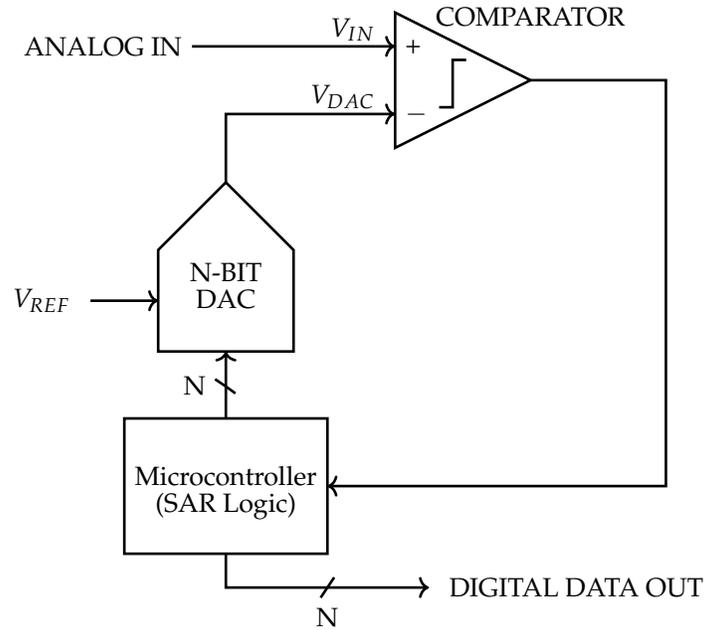

Figure 5: SAR ADC circuit diagram
You have two CMOS inverters made from NMOS and PMOS devices. Both NMOS and PMOS devices have an “on resistance” of $R_{on,N} = R_{on,P} = 1 \text{ k}\Omega$, and each has a gate capacitance (input capacitance) of $C_{GN} = C_{GP} = 1 \text{ fF}$ (fF = femto-Farads = $1 \times 10^{-15} \text{ F}$). We assume the “off resistance” (the resistance when the transistor is off) is infinite (i.e., the transistor acts as an open circuit when off). The supply voltage V_{DD} is 1V. Assume $V_{DD} > V_{tn}, |V_{tp}| > 0$. The two inverters are connected in series, with the output of the first inverter driving the input of the second inverter (Figure 5).
Figure 5 illustrates a high-level circuit diagram of a SAR ADC. The analog input voltage is one of the inputs to the comparator. The other comparator input, V_{DAC} , is the DAC voltage output, i.e. the analog representation of your code/guess. The comparator compares these two values and outputs a logical high (1) if $V_{IN} \geq V_{DAC}$ or a logical low (0) if $V_{IN} < V_{DAC}$. This comparator decision then feeds into the SAR logic, implemented in a microcontroller in this case. This logic is basically the brain that implements the binary search pattern, deciding which bits in the code need to be changed. The updated code then propagates back to the DAC, which updates V_{DAC} , and the cycle continues N times. Once this is done, the final N -bit output code comes out of the register storage units for use by other circuits. If you're wondering what V_{REF} does for the DAC, recall from Homework 1 that it tells
We will now analyze the operation of a 4-bit SAR ADC with the input voltage range between 0 V and 5 V and output code range between 0000 (0) and 1111 (15). In other words, V_{REF} is 5 V and $0 V < V_{in} < 5 V$ in Figure 5.